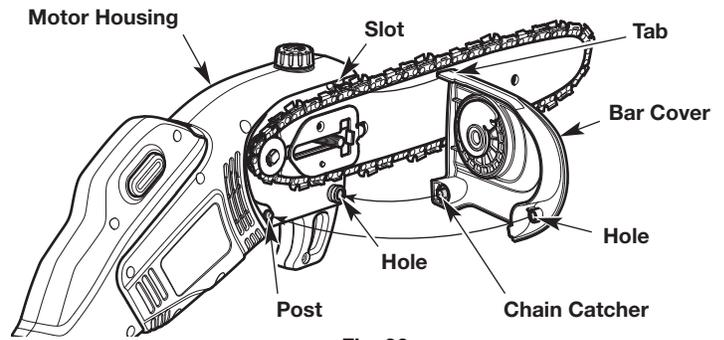

Fig. 36
6. Place the bar cover onto the motor housing. Make sure the chain catcher is seated securely in the hole on the motor housing (Fig. 36). Make sure the post on the motor housing is seated securely in the hole on the bar cover (Fig. 36). Make sure the tab on the bar cover is seated securely in the slot on the motor housing (Fig. 36).